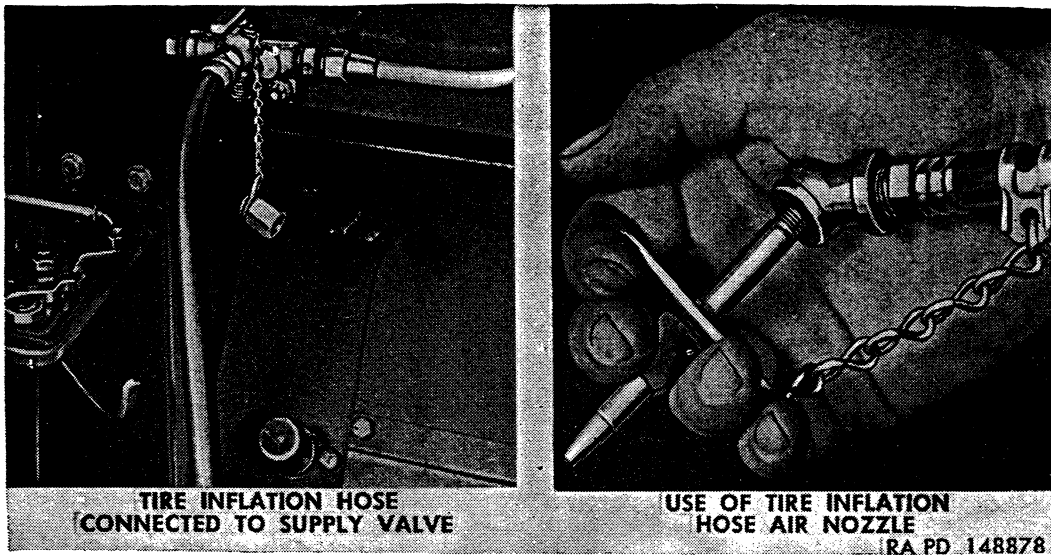

Figure 263. Use of tire inflation hose.
*b. Use of Tire Inflation Hose* (fig. 263). An air supply valve is provided at left side of dash panel inside cab, adjacent to cowl left side ventilator. Supply valve is connected to vehicle air system through junction fitting at center of dash panel. Tire inflation air hose is provided in vehicle tool kit. Remove cap from supply valve and thread hose fitting onto valve. Open valve by turning handle parallel to hose outlet. Air nozzle is attached to hose by a chain. Nozzle may be used for cleaning and drying parts.